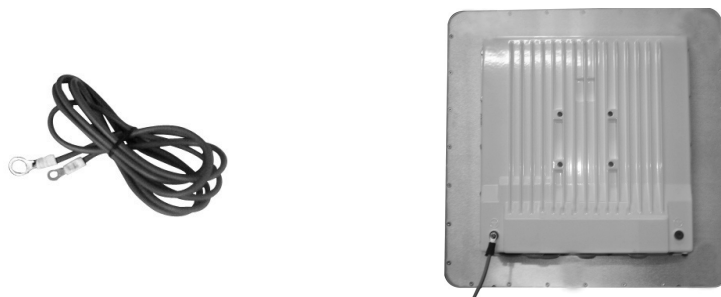

Figure 3-49 Ground the Device
1. Connect one end of the grounding cable to the device as shown in the Figure 3-49 and the other end to the closest earthing system point at the installation.